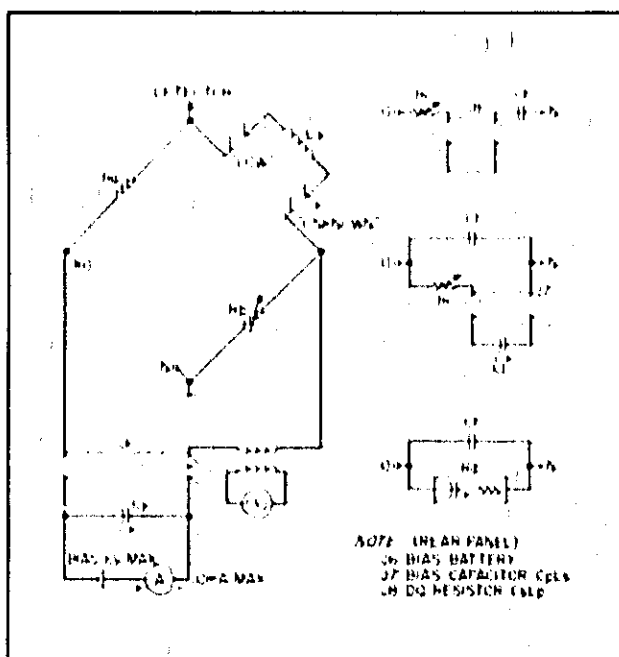

Figure 3-6. De Biased Inductance Measurement
measurement. Figure 3-6 schematically illustrates the de bias application. Operating procedure for de-biased measurements is described below and pictorially shown in Figure 3-6. The following equipment will be required:
a. Connect the measurement setup as shown in Figure 3-6. Ground only the 4260A cabinet to power line ground.